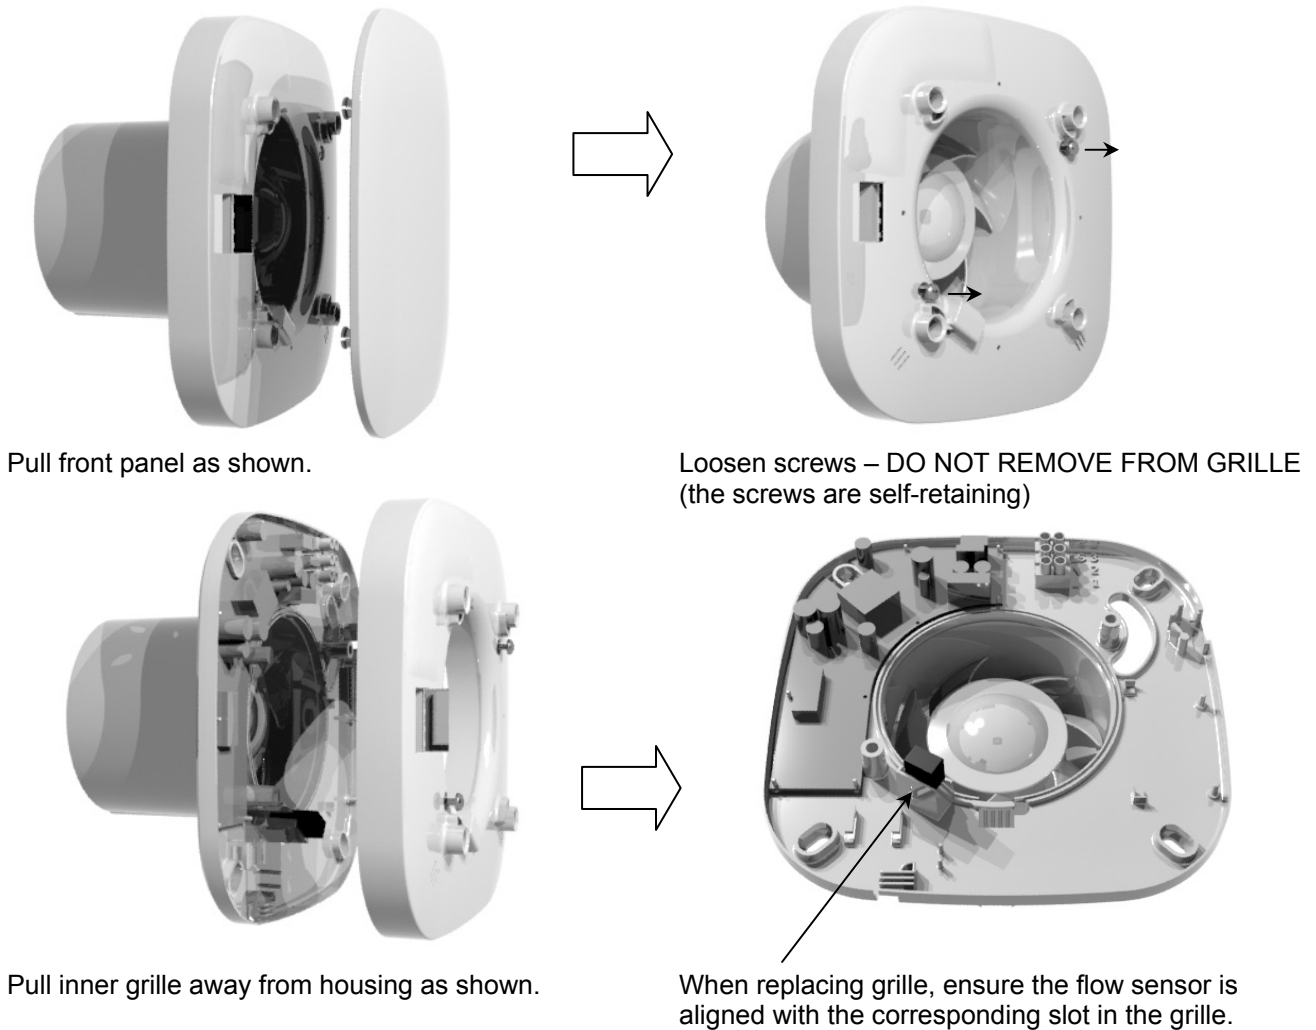

Fig.5. Controls
1) Trickle speed selection (6l/s or 8l/s) – (Fig. 5) (dMEV,TP & HTP models)
2) Airflow detection system – enable/disable (Fig. 5) (dMEV,TP & HTP models)
- To **REDUCE** the operating time, use a small screwdriver to turn the adjuster Fig.5. **CLOCKWISE**. To a minimum setting of 1 minute.
- To **INCREASE** the operating time, use a small screwdriver to turn the adjuster Fig.5. **ANTI-CLOCKWISE**. To a maximum setting of 30 minutes.
- To ENABLE the fixed overrun timer, link JP2 as shown in fig. 5.
- To DISABLE the fixed overrun timer, remove the link in fig. 5.
The HTP model incorporates an adjustable ambient response humidistat. The fan will increase the extract rate if the humidity rises above the set point – adjustable via the pot shown in fig. 5.
- To RAISE the set-point use a small screwdriver to turn the adjuster Fig.5. ANTICLOCKWISE. This makes the controller MORE sensitive.
- To LOWER the set-point use a small screwdriver to turn the adjuster Fig.5. CLOCKWISE. This makes the controller LESS sensitive.
a. Dip switch 2 in the off position – Traditional mode (factory set) (fig. 5):